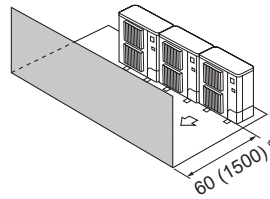

Fig. 2-14
- ③ Obstacles at front (Fig. 2-14)